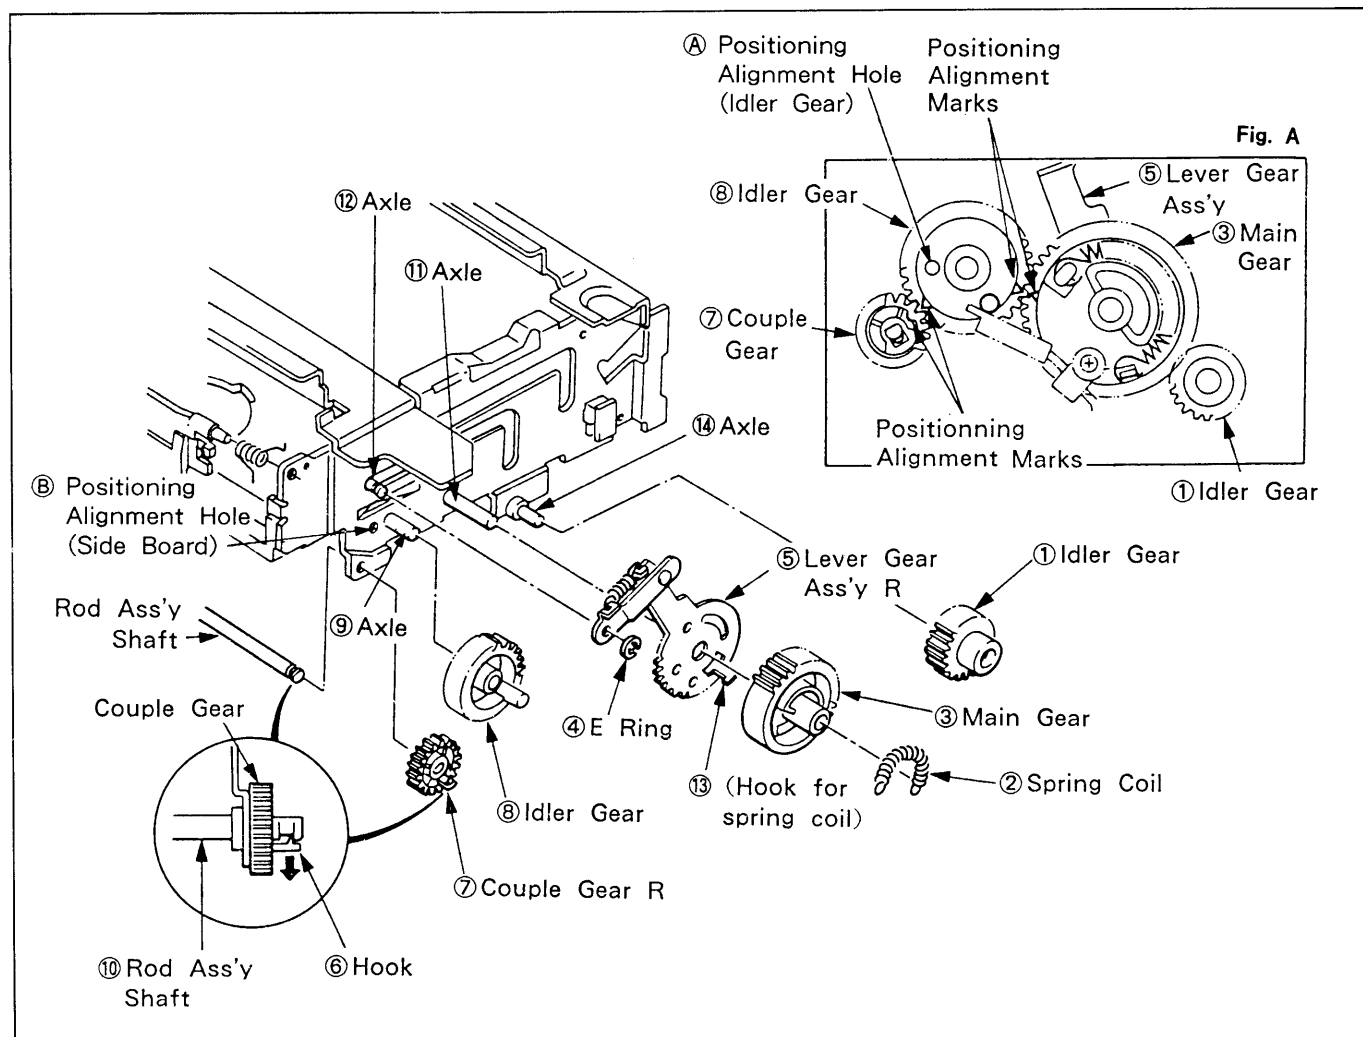

Fig. 5-2-3. Cassette Drive Gears (Right Side)
- 7) Set the GEAR BRACKET ASS'Y ② to the dowel and mount it using four screws ①.
Set the hole ⑭ of the IDLER GEAR with the hole ⑮ of the SIDE BOARD as shown in Fig. 5-2-3 at this time.
5-2-3. Cassette Drive Gear (Right) (See Fig. 5-2-3.)